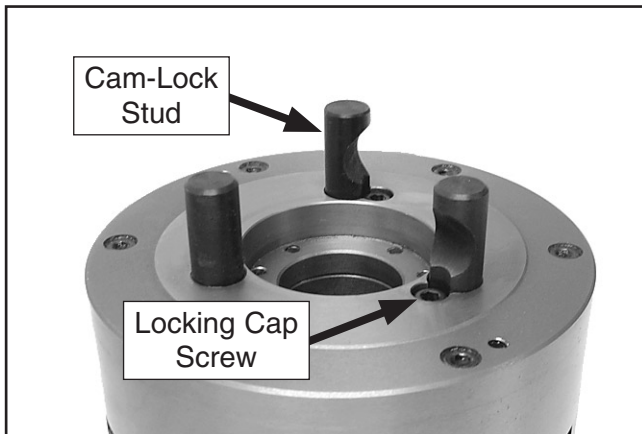

Figure 27. Cam-lock stud and locking cap screw.
2. If installed, remove the three locking cap screws adjacent to the cam-lock mounting holes (see **Figure 27**).